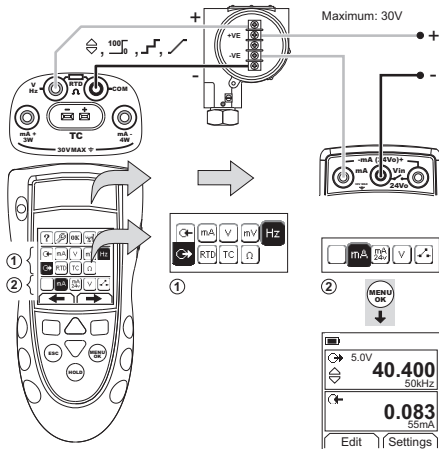
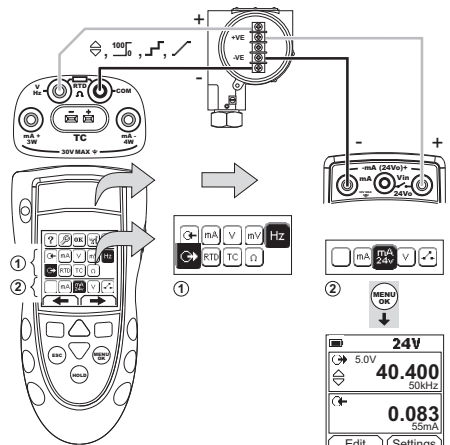

Figure 10: Example Configuration - Transmitter Calibration with External Loop Power
Figure 11: Example Configuration - Transmitter Calibration with Internal Loop Power
1. Connect the instrument (Figure 10 & Figure 11) and, if necessary, adjust the Set Up (Table 1).